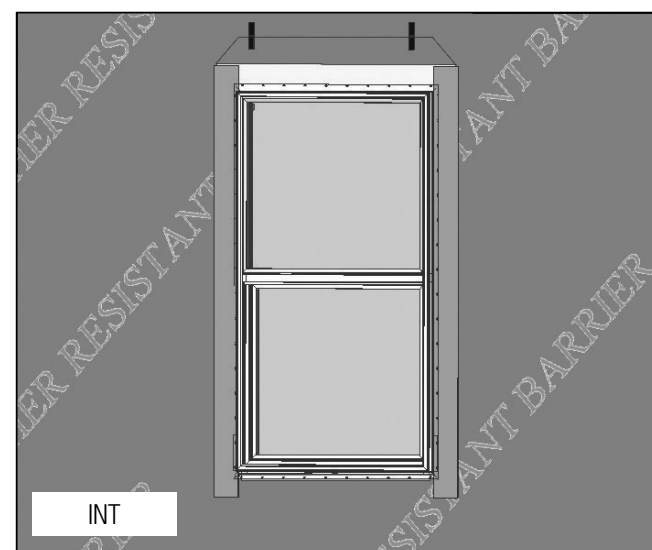

FIG. 13
- A) Cut and apply side flashing. Side flashing should run from the bottom of the sill flashing to 8" above the rough opening. (Fig. 13)